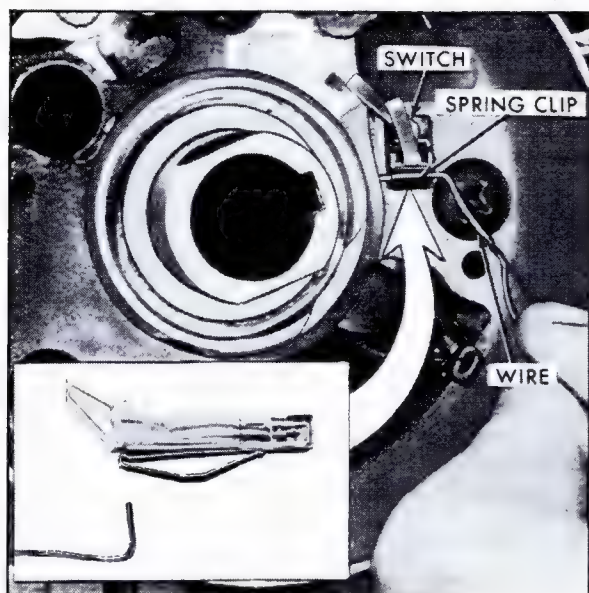

Fig. 9-49 Removing Buzzer Switch
18. Using a piece of stiff wire, (such as a paper clip) hook wire in exposed loop of buzzer switch wedge spring, Fig. 9-49. Pull straight out on spring and remove switch and wedge spring.